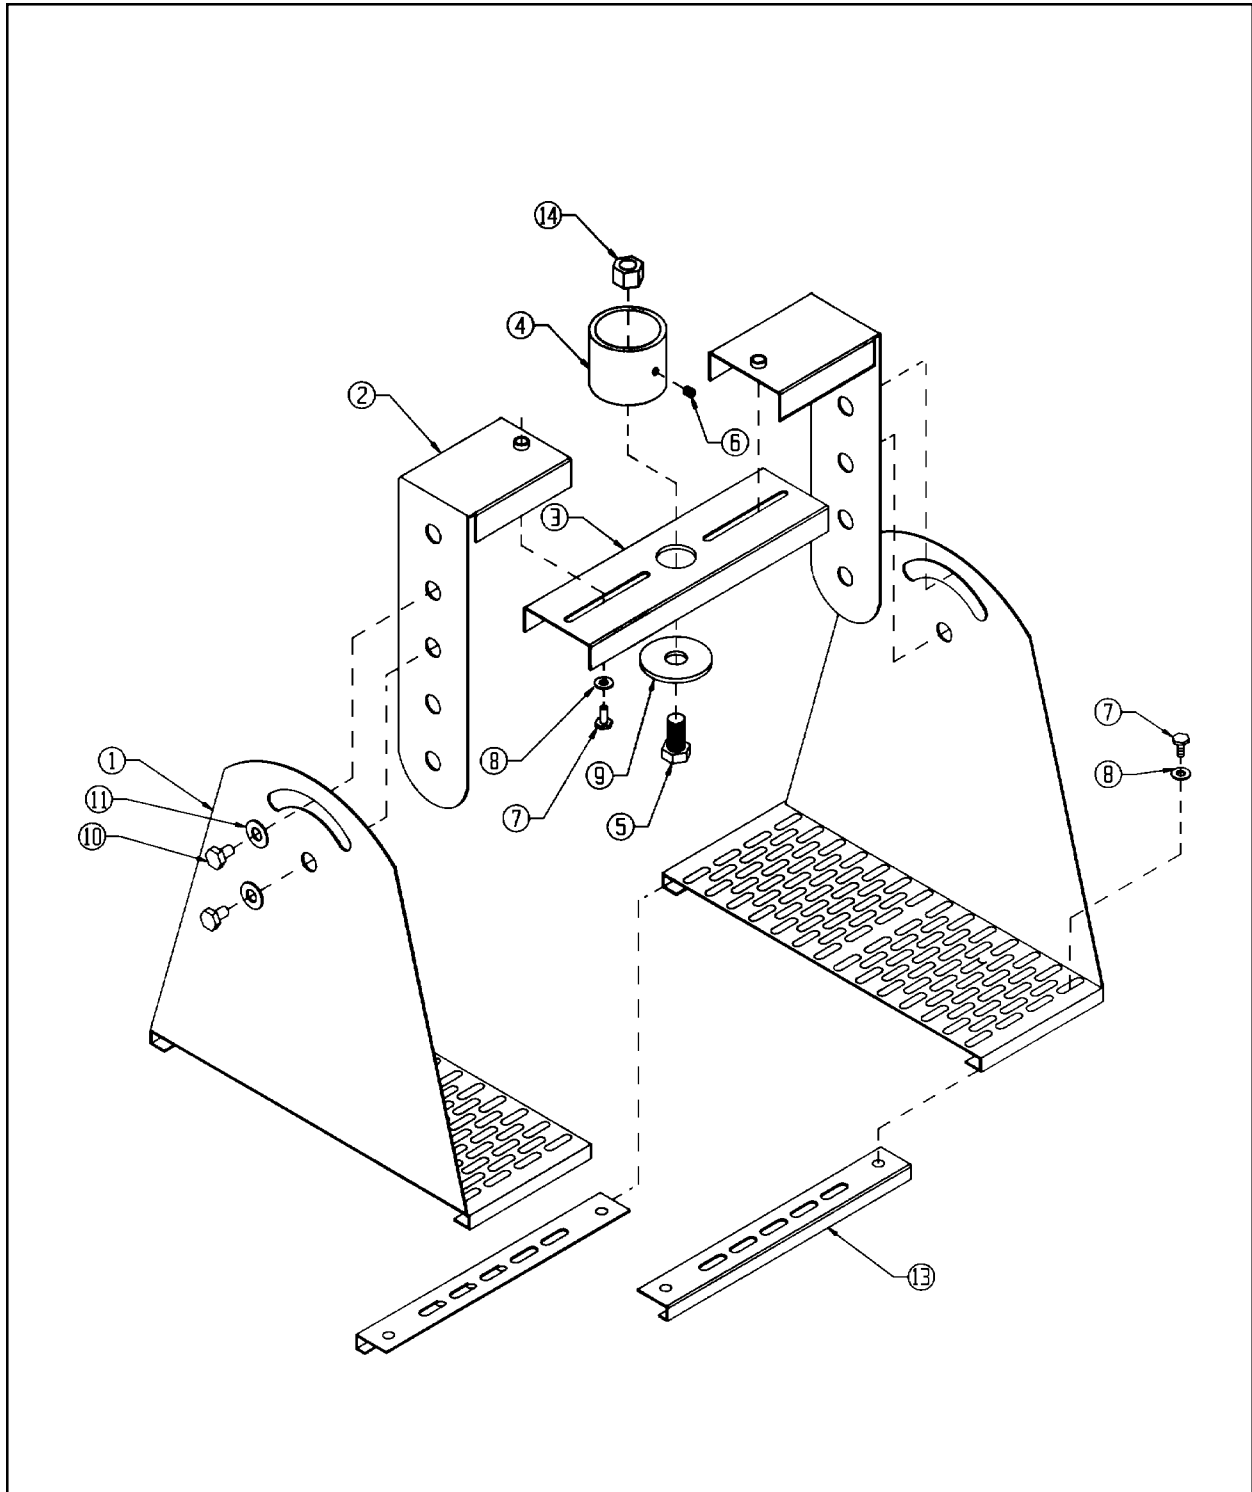

Figure 2. MR3050 Exploded Assembly Diagram
1. Determine the width the base mounting brackets (item 1, Figure 2) must be positioned to in order to accommodate the monitor being used. Next, attach the two (2) bracket supports (item 13, Figure 2) to the base mounting brackets as indicated in Figure 2.
5. Slide the side brackets (item 2, Figure 2) onto cross bar and thread on the 1/4-20 bolts. Don't tighten bolts until all pieces are together.
6. Lift monitor with base pieces attached up to mount. Attach side brackets to base pieces on monitor using the four (4) 3/8-16 bolts supplied.
An exploded assembly diagram for the MR3050 is shown in Figure 2.